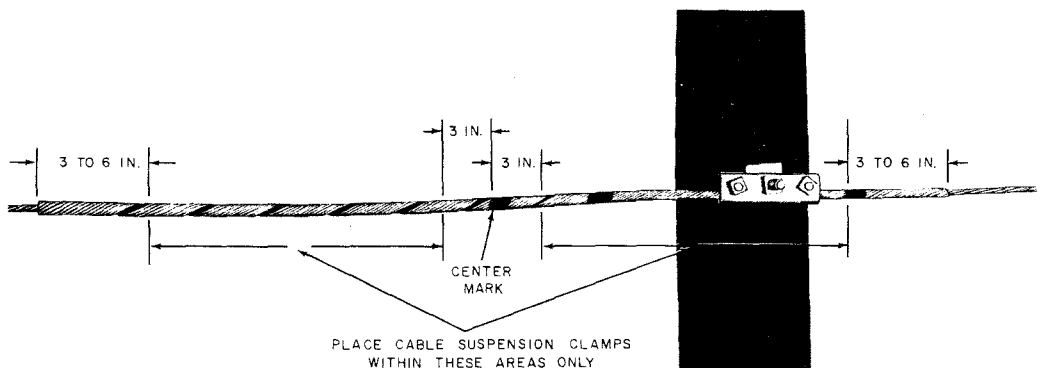

Fig. 9—Placing Suspension Clamp on B Strand Reducer
(7) When placing cable by the moving reel method and using an F Cable Lasher and D Cable Guide, the equipment can be pulled over the splice made with a B Strand Reducer where the ends have been taped. In all other cases, observe the precautions that are outlined in 3.02.
(8) Where the strand reducer splice is located at or very close to the pole, a cable suspension clamp should be positioned *only* in the areas indicated in Fig. 9.